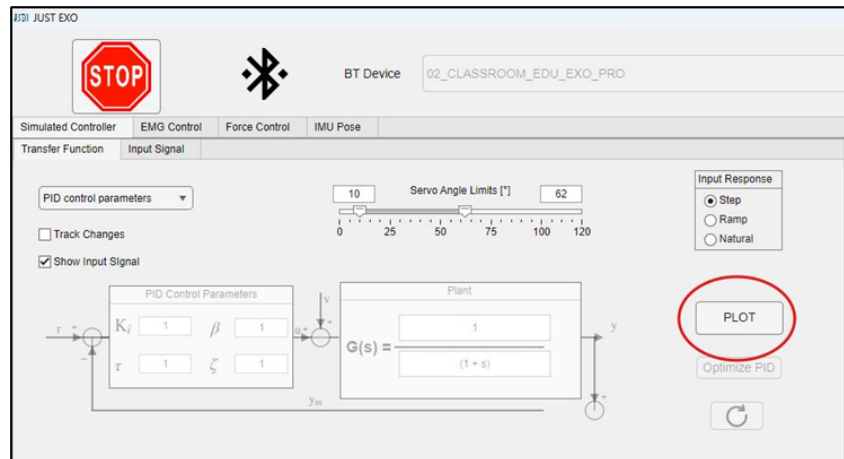

Figure 17: Click plot.
7. When you have chosen the parameters for the input response, go back to the “Transfer Function” tab, and click on plot. You should now see three different plots. See Figure 17 a. If you get an error that says “The used system (TF) is crosses the Danger zone (0°).”, see page 18 for more information.